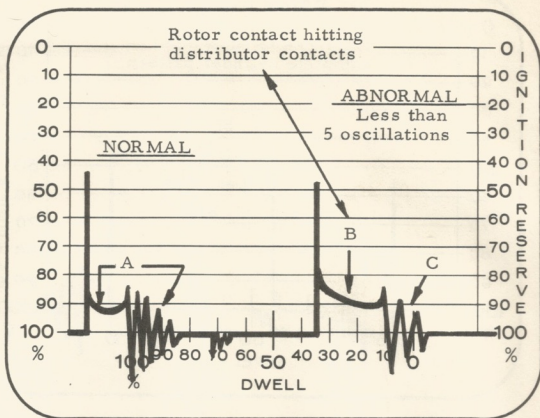

Figure 16
See NOTE #1 and Figure 16 under "NOTES" on page 12, for details of this fault.
Figure 16 shows the pattern expanded to present two (2) plugs firing. At "A" the pattern is normal. At "B" the pattern shows the appearance of the plug firing line and the coil condenser oscillations when one of the distributor contacts is being hit by the rotor contact. The plug firing line is stretched out and flattened more than at "A", which means the plug is firing longer. This condition usually results in a shorter spike because it requires less high tension voltage to make the plugs fire when there is no gap between the rotor and the distributor contacts.